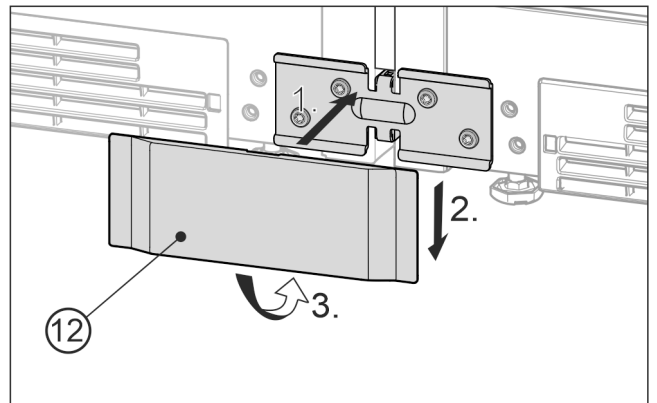

Fig. 20 Example illustration
- Place the bottom cover Fig. 20 (12) onto the bracket from the front Fig. 20 (1), slide it down Fig. 20 (2) and snap it in at the bottom Fig. 20 (3).